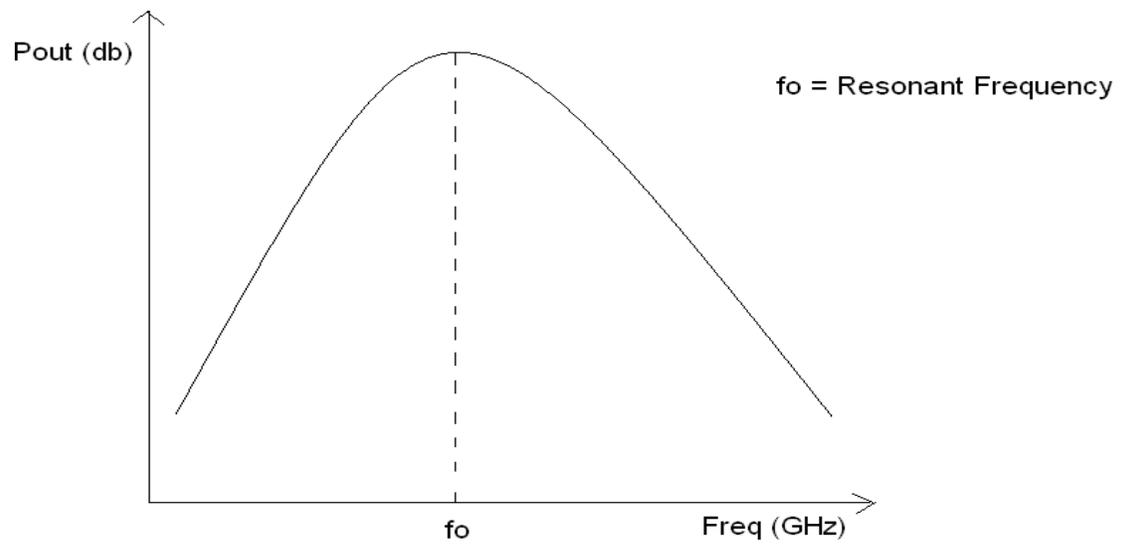

Figure 1: Plot output power and resonant frequency
1. Assemble the set up shown in Fig. 1. Connect the output of the frequency meter directly to the directional coupler (connect P to Q directly).
1. The transmission loss response of the resonator can be measured using the Test Bench set up given at Fig. 1.
The microstrip power divider provided is of the 3 dB Wilkinson type the impedance of the input/output lines is 50Ω and the isolation resistor connected between the two output lines has a value of 100Ω . Measuring the power division property involves measuring the transmission response between the input port (port 1) and the two output ports (ports 2 and 3). While measuring the transmission response between any two ports, the third port has to be terminated in a matched load. Measuring the isolation property involves measuring the transmission response between ports 2 and 3 by terminating port 1 in a matched load. Figure 1 shows the line diagram of Y- junction as a power divider. Let port 1 be the input port that is matched to the source ($S_{11} = 0$).